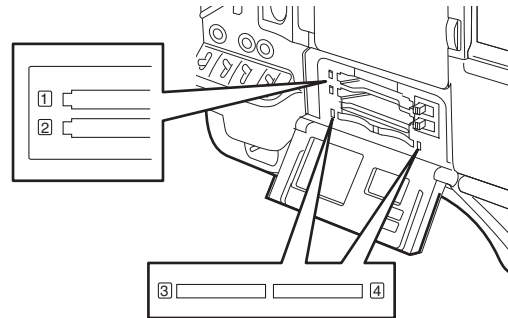

Fig. 2
- 4 Insert a P2 card into a card slot and close the slot cover. (Fig. 2)**